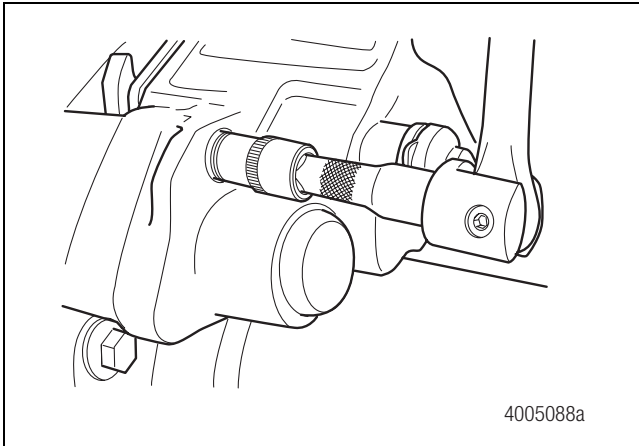

Figure 5.17
2. Use the correct size socket to remove the four bridge bolts. Figure 5.17. Discard the bridge bolts after they have been removed. They are no longer usable.